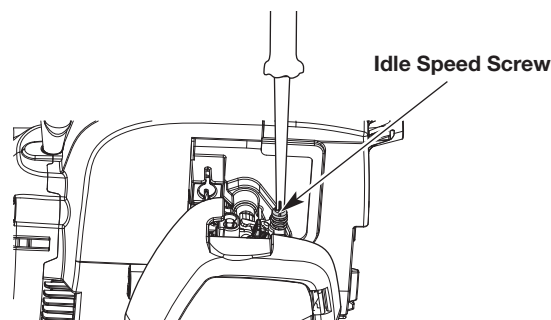

Fig. 19
2. Release the throttle control and let the engine idle. If the engine stops, use a small Phillips screwdriver to turn the idle speed screw clockwise, 1/8 of a turn at a time (as needed) until the engine idles smoothly (Fig. 19).
3. If the engine is idling too quickly, turn the idle speed screw counterclockwise, 1/8 of a turn at a time (as needed) to reduce the idle speed (Fig. 19).